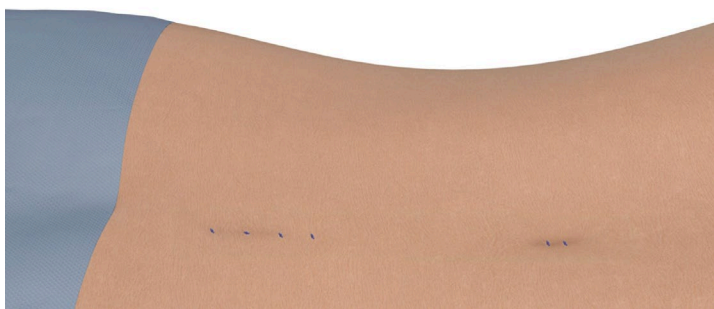

Figure 4
5. Close the incisions using sterile skin closures and apply dressings. Closures are usually done in two steps, with absorbable sutures for the deeper layer and either nonabsorbable or absorbable sutures for the superficial layer. Apply dressings as needed. (Figure 4)